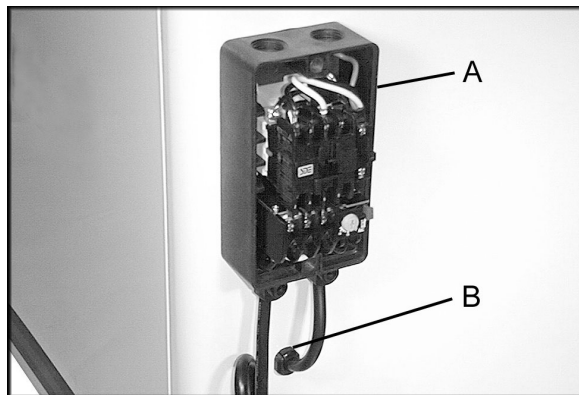

Figure 11
*Model JWJ-8CS:* Remove the cover of the switch box (A, Fig. 11) and mount the box to the right side of the stand using the two screws provided. Insert the motor leads through the hole in the stand as shown, and insert a grommet (B, Fig. 11).